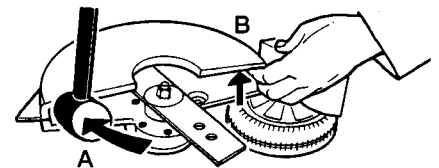

FIG 25
1. Lift and tap with hammer in a clockwise direction (Fig. 25 - A).